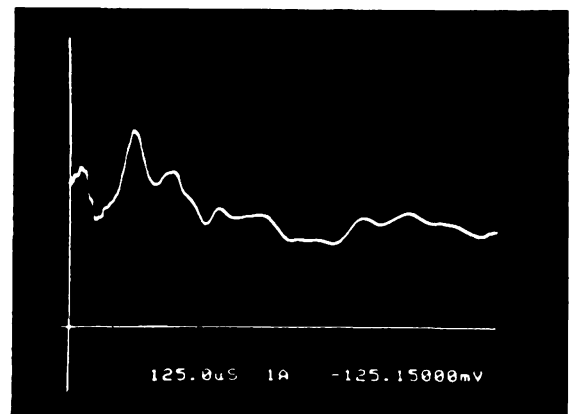

Figure 8-42
- Figure 8-42: The corresponding Delayed trigger display of the signal captured during the sweep.